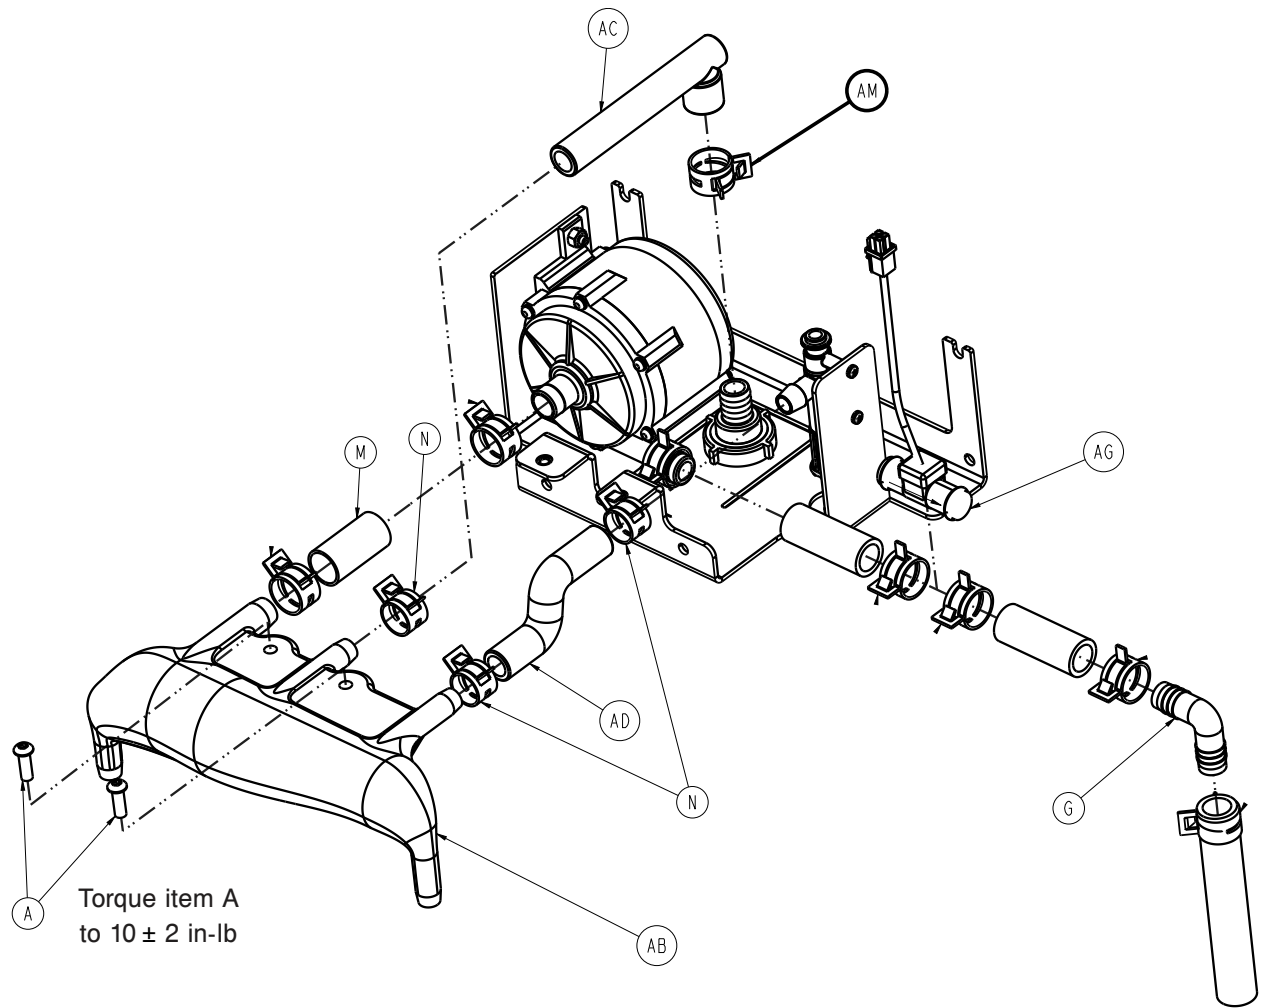
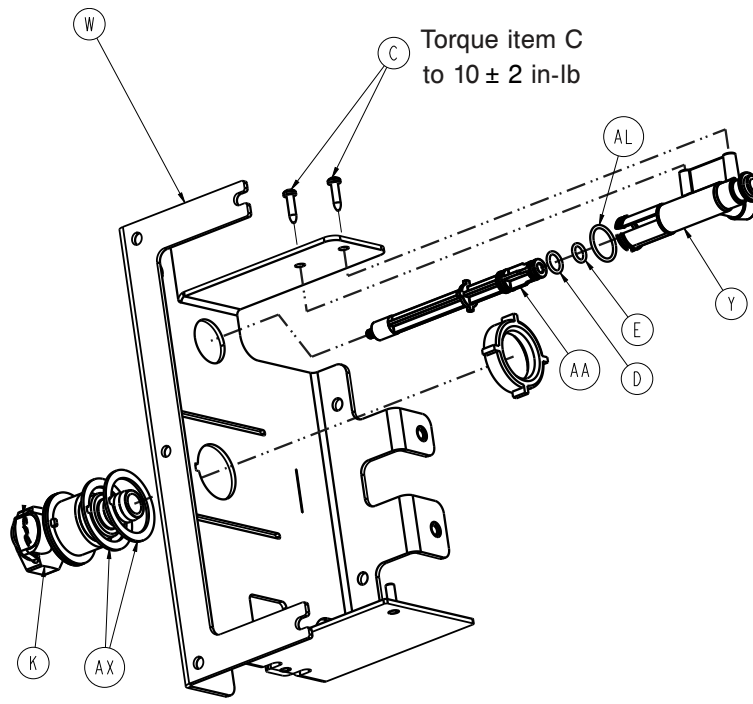

Figure 14 – Hose clamp
Figure 15 – Coupling
- Using needle nose pliers, squeeze the hose clamp (AM) (Figure 14) that secures the tube to the coupling (K) (Figure 15).